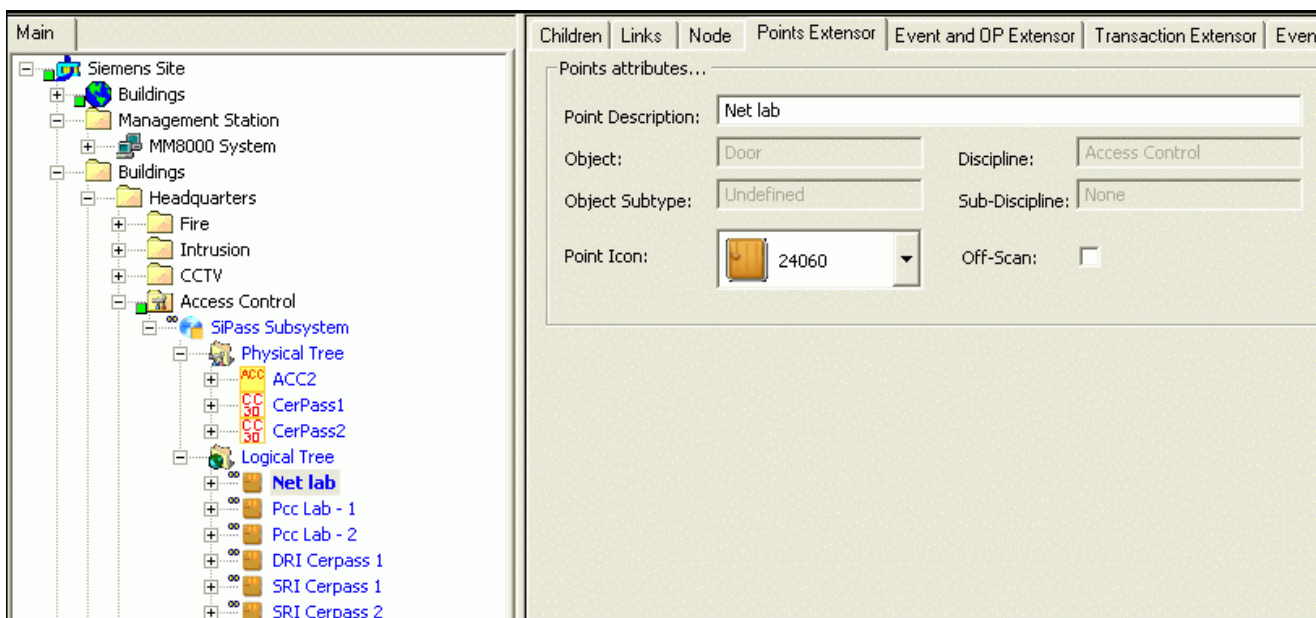

Fig 11 Customising individual SiPass points
- In the Point Extensor tab of each individual point, customise the description and icon (Fig 11)